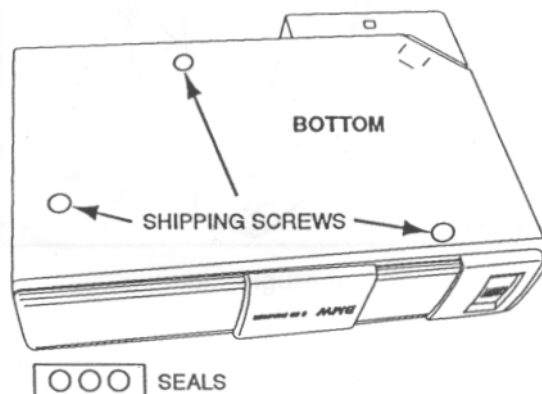

Figure 2
1. Remove the 3 shipping screws from the bottom of the CD changer (see Figure 2). Store the 3 screws for future use; replace 3 screws only if a unit needs to be returned for an exchange.
2. Cover the holes where the shipping screws were installed with the 3 adhesive seals supplied with the unit. (see Figure 2)